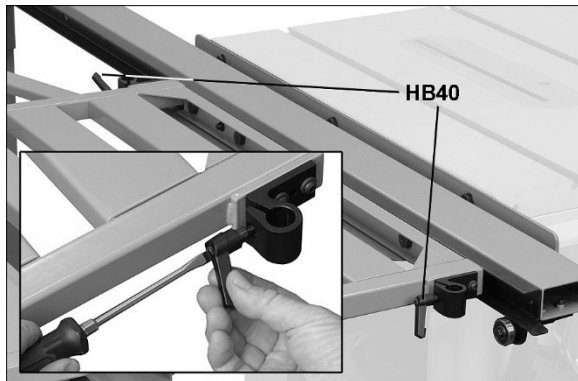

Figure 7-23
1. Install two locking handles (HB40, Figure 7-23) into the pivot hubs on table. To speed this process, pull handle outward and turn screw with flat blade screwdriver, then release handle (see inset, Figure 7-23).